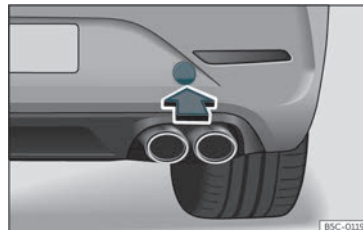

Fig. 45 On the right side of the rear bumper: remove the cover.
The housing of the screw towing eye is on the right side of the rear bumper behind a lid » **Fig. 45**.
- Press the bottom side of the lid»» **Fig. 45** to unclip it.